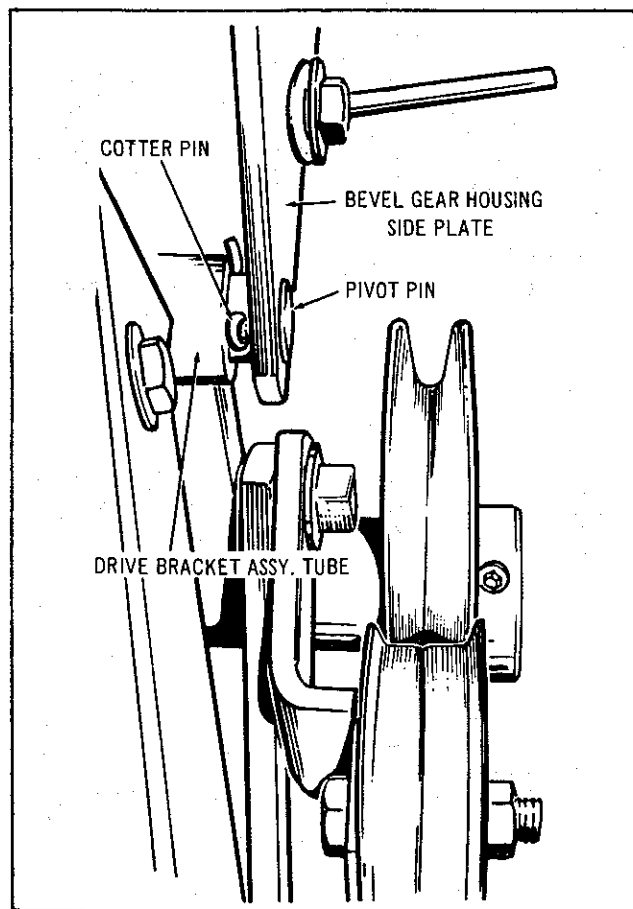

FIG. 17
3. Push Pivot Pin through the holes in Bracket and Tube until the position of Cotter Pin Hole in Pivot Pin is as shown in Figure 17. Secure in position with Cotter Pin furnished.